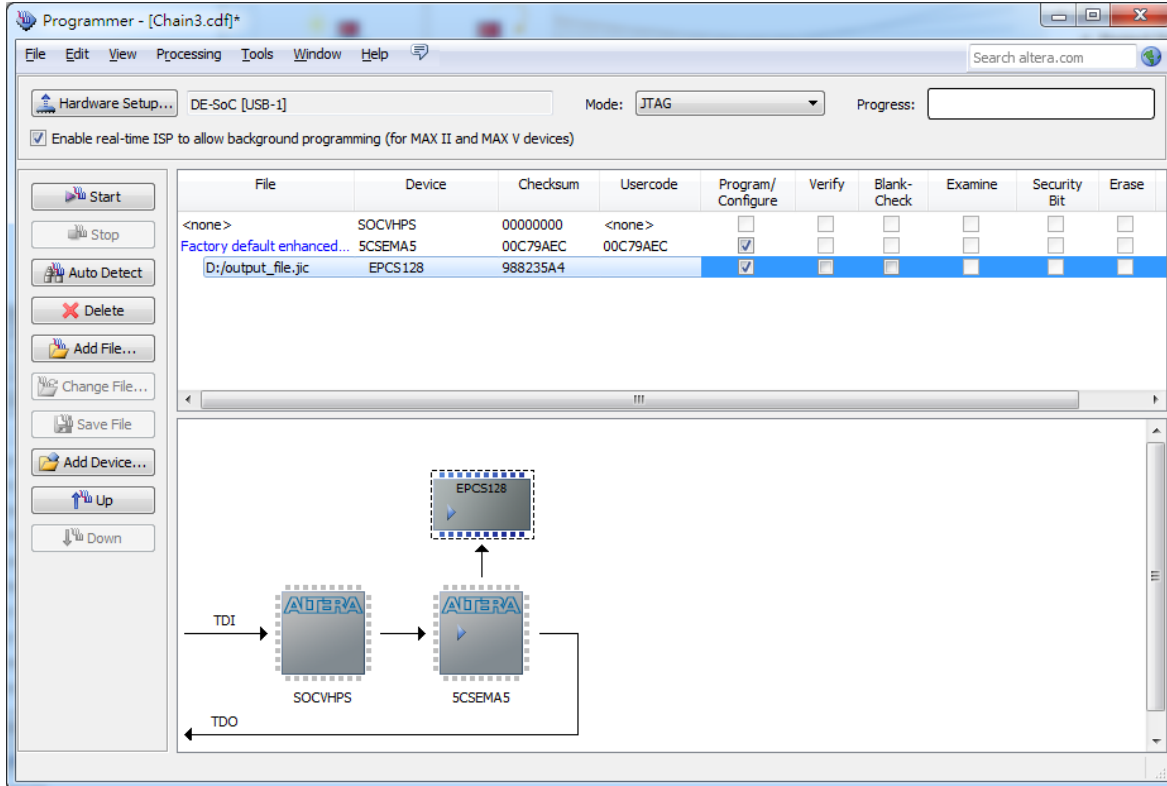

Figure 8-7 Quartus II programmer window with one .jic file
5. Program the EPCS device by clicking the corresponding **Program/Configure** box. A factory default SFL image will be loaded, as shown in **Figure 8-7**.